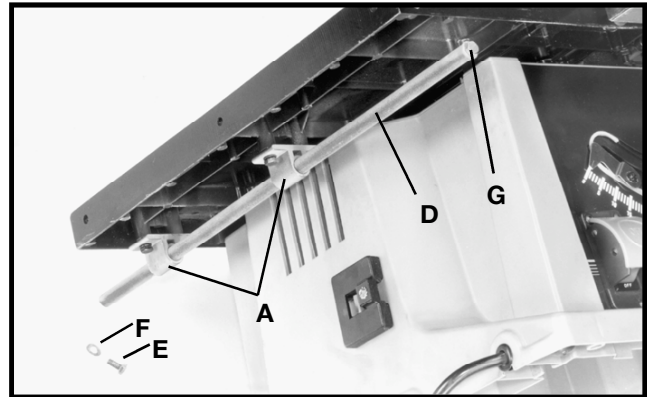

Fig. 30
2. Insert rod (D) Fig. 30, through holes in brackets (A) as shown. Then thread and tighten one 1/4-20x1/2" hex head screw (E) and 1/4" flat washer (F) into the front end of rod (D) as shown at (G). Assemble remaining rod to the opposite side of saw in the same manner.